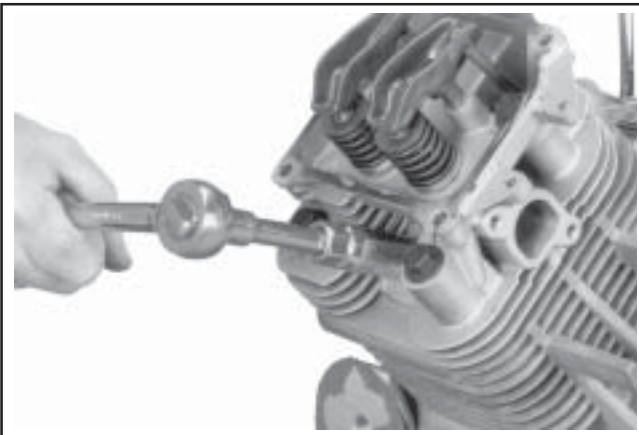

Figure 11-48. Installing Spark Plugs.
3. Install new plugs and torque to **24.4-29.8 N·m (18-22 ft. lb.)**. See Figure 11-48.